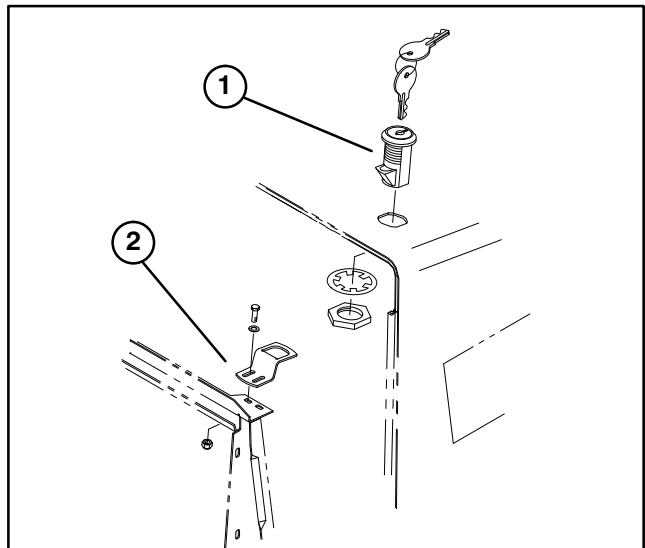

Figure 3
3. Mount locking switch to hood with lock washer and nut. Position switch with latch toward front of machine (Fig. 3).
4. Loosely mount latch bracket to radiator support with (2) 1/4-20 x 3/4" lg. capscrews, flat washers and locknuts (Fig. 3).